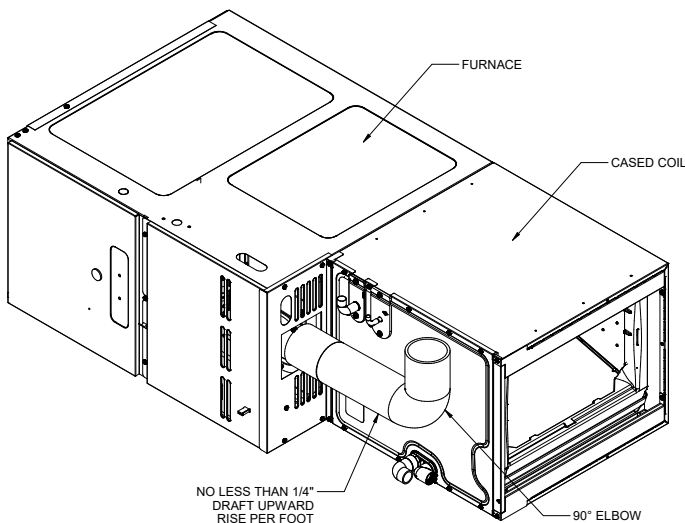

Figure 3B
- In case of other cabinet sizes match up with 80% Furnace in Horizontal Right application, 2 qty of 90° elbow flue vent must be used. The horizontal run must be $\leq 75\%$ of the vertical rise and no less than $\frac{1}{4}$ " upward rise per foot (see Figure 3B).